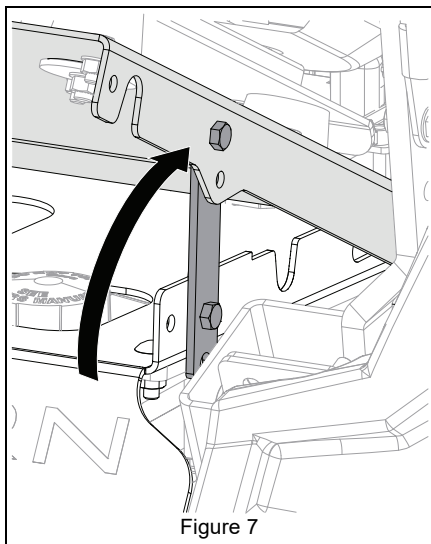

Figure 7
11. Slide seat rearward to the operating position. See Figure 7.